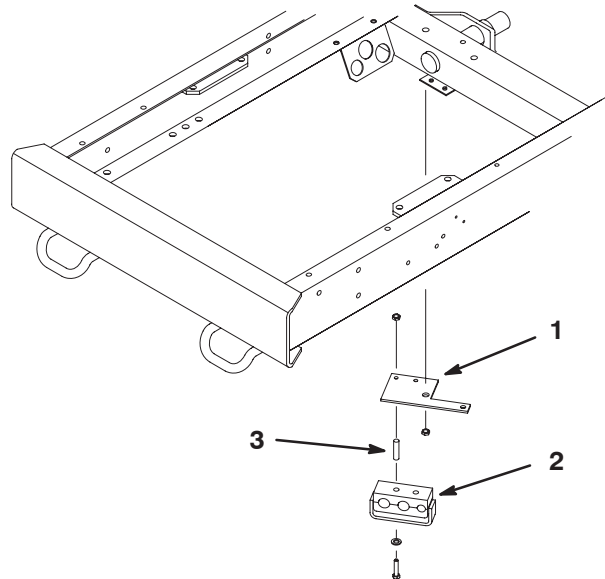

Figure 10
10. Insert the spacer into the hose clamp. Attach the hose clamp to the hose bracket using two 1/4–20 x 2–1/2" lg. screws and nuts. Remove the bolts and locknuts from the left front motor mount near the left side of the carrier frame and discard the locknuts. Install the hose bracket and hose clamp with the previously removed bolts and two new locknuts (Fig. 10).